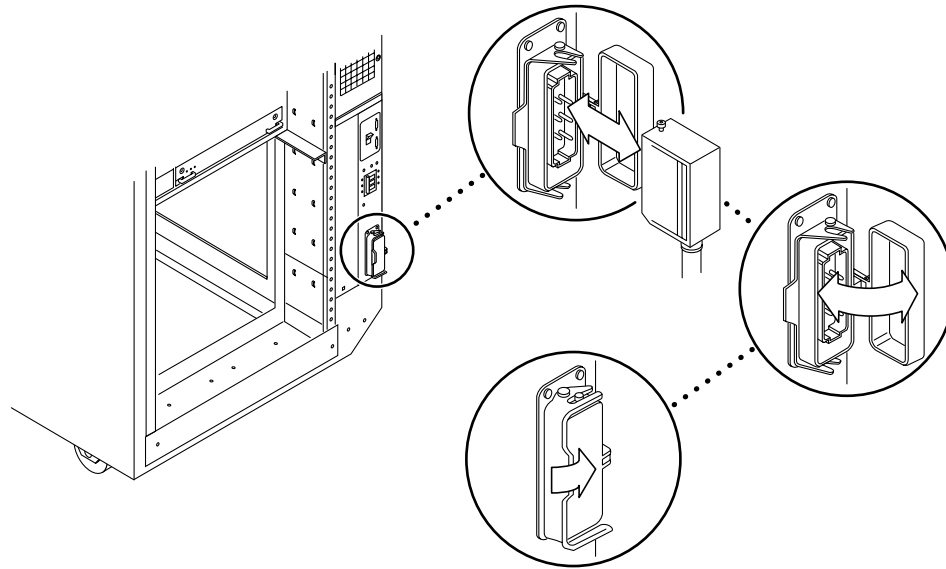

FIGURE 5-4 Removing and Replacing the AC Input Cable
2. **Disconnect the AC power cord from the power socket (FIGURE 5-4).**
- 2. Connect the power cord to the power socket (FIGURE 5-4).**